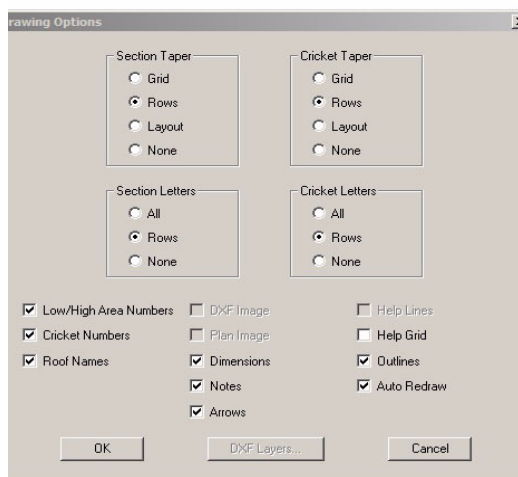

Figure 1–16 Drawing Options dialog box
1. On the main toolbar, click Draw . The Drawing Options dialog box opens as in Figure 1–16.